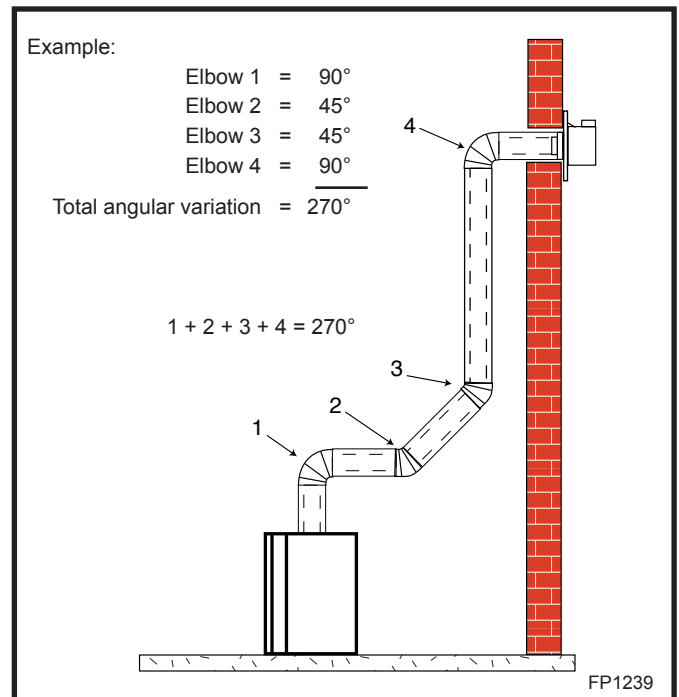

Fig. 19 Maximum number of elbow degrees.
- The maximum number of 45° elbows permitted per installation is six (6). These elbows can be installed in either the vertical or horizontal run.
- The maximum number of elbow degrees in a system is 270°. (Fig. 19)